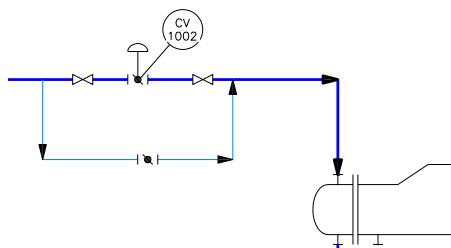

Figure 2-64 Location of gate valves and the butterfly valve
11. Similarly, place two gate valves and a butterfly valve on the pipe which is connected to the heat exchanger, as shown in Figure 2-64.